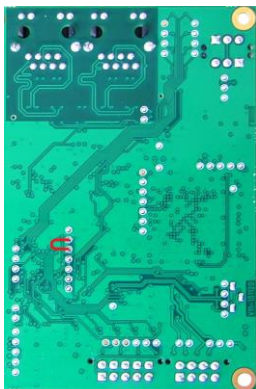

Figure 8.1 Reset to factory defaults (bottom view of pcb – interface brick end)
2. Short two pads of programming connector pad-array (see figure 8.1).